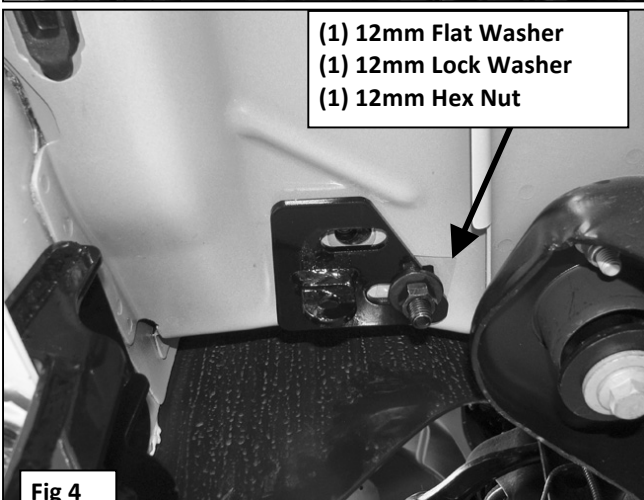

Fig 4
5. Select the driver side Top Bracket. Hold the Top Bracket in place over the Nut and Bolt Plate. Secure the Bracket to the Nut and Bolt Plate with (1) 12mm Flat Washer, (1) 12mm Lock Washer and (1) 12mm Hex Nut, **(Figure 4)**. Rotate the Nut and Bolt Plate to line up the Nut with the remaining hole and thread (1) 10mm x 35mm Hex Bolt, (1) 10mm x 30mm OD Large Flat Washer and (1) 10mm Lock Washer into the Nut, **(Figure 5)**. Do not tighten hardware.